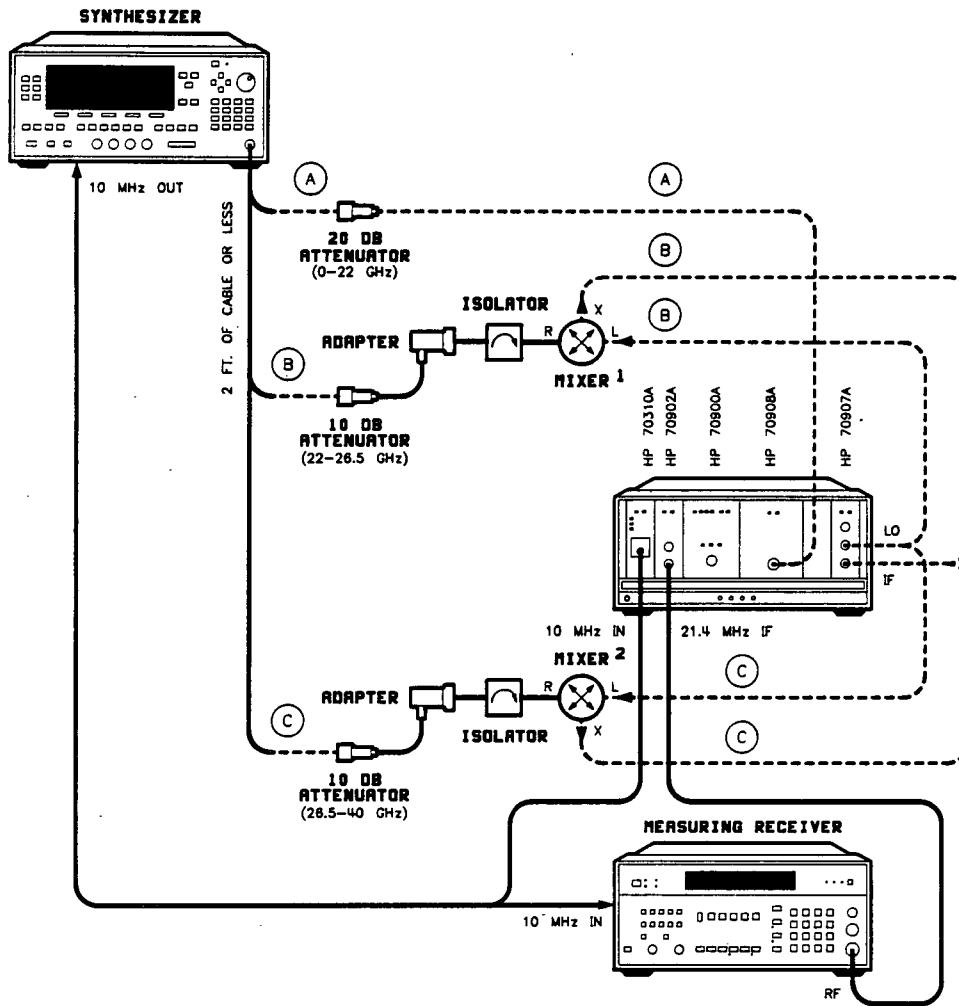

Figure 4-1. Step Attenuator Flatness Setup
*#2 in Figure 4-1.
**#1 in Figure 4-1.
Connect the equipment as shown in figure 4-1. Preset all instruments and let them warm up for at least one hour.